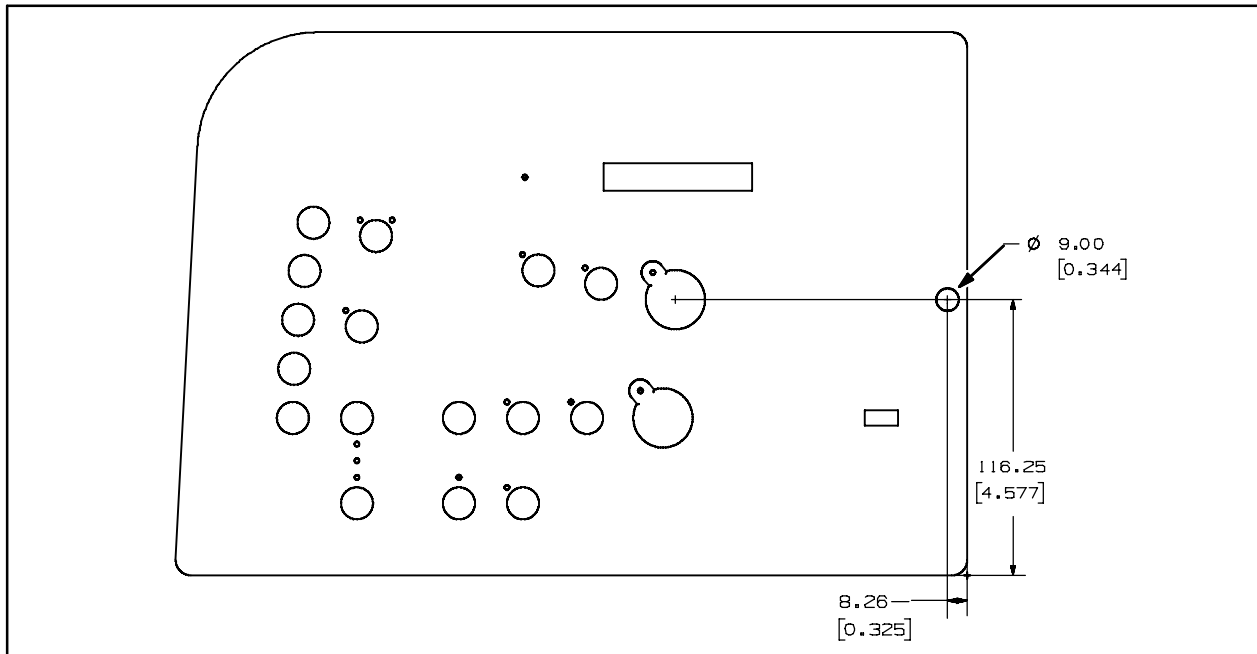

FIG. 3
13. Carefully drill a 11/32" (0.344") hole through the instrument panel assembly. Refer to Fig. 3.
18. Insert the *ec-H20* warning light into the 11/32" (0.344") hole. Refer to Fig. 3.